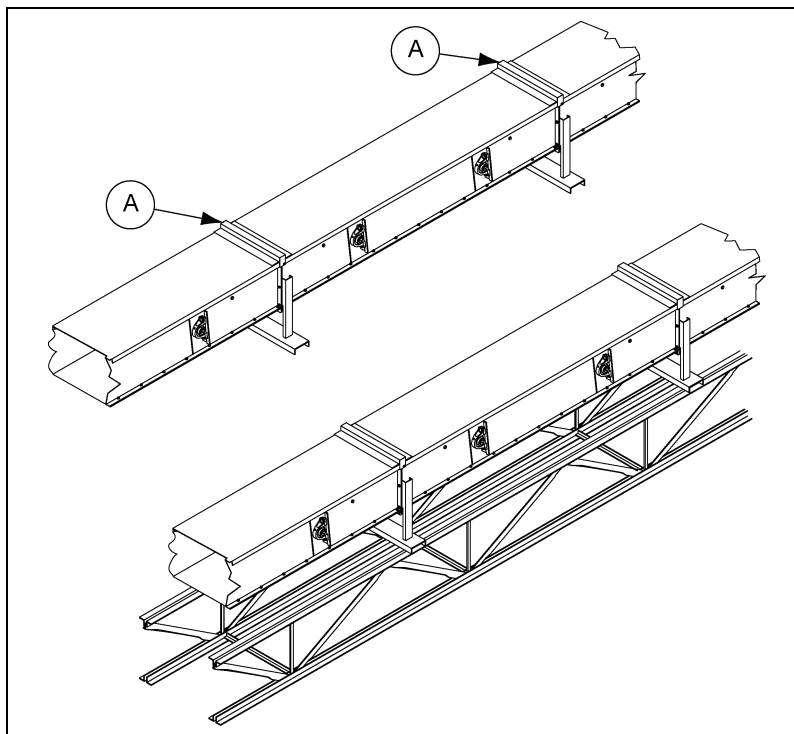

Figure 4A Conveyor Supporting Structures
1. Figure 4A illustrates the general type of acceptable support structure.
2. Conveyor must be supported at each section joint (A). Refer to the certified drawing for location and attachment of the short section.